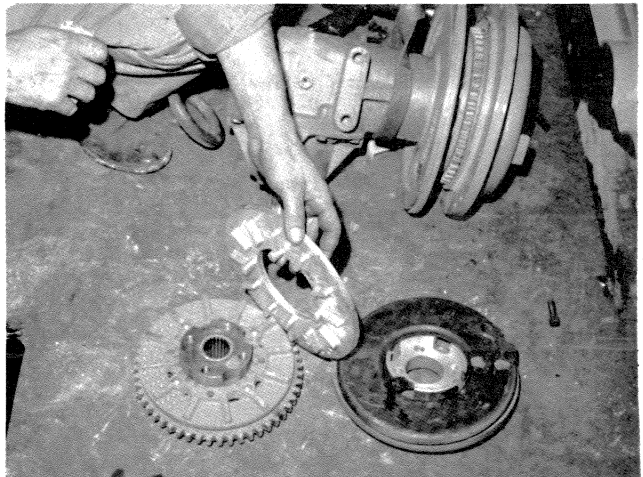

Figure 14. Floating Plate Removal
- (14) Remove the floating plate. This plate need not be marked for disassembly, as the lugs are equidistant, and will fit the counterbored holes in any of four positions (Fig. 14).